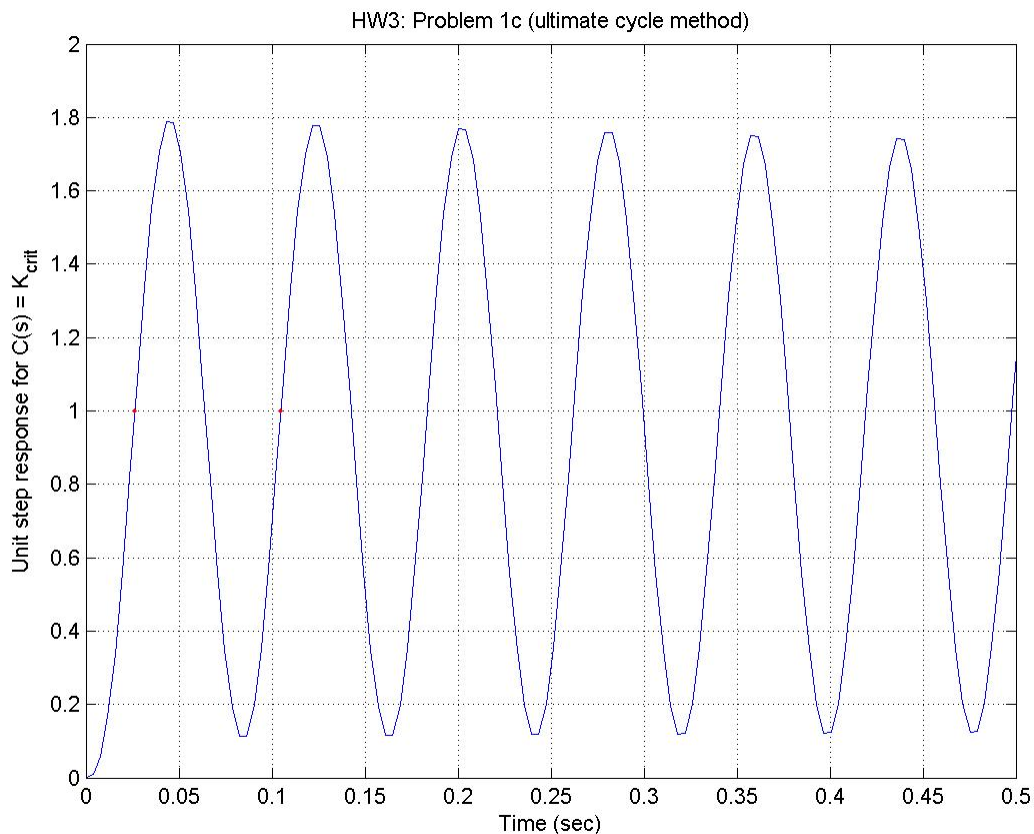

Figure 3.1c – Data for ultimate cycle method. Shown above is the closed-loop response when $K=97$.
i) Use the ultimate cycle method to find initial PID gains for the system shown in Figure 3.1c. This figure shows the response of the system when a proportional controller is used with a gain of 97; that is, we may assume here that $K_{crit} \approx 97$.